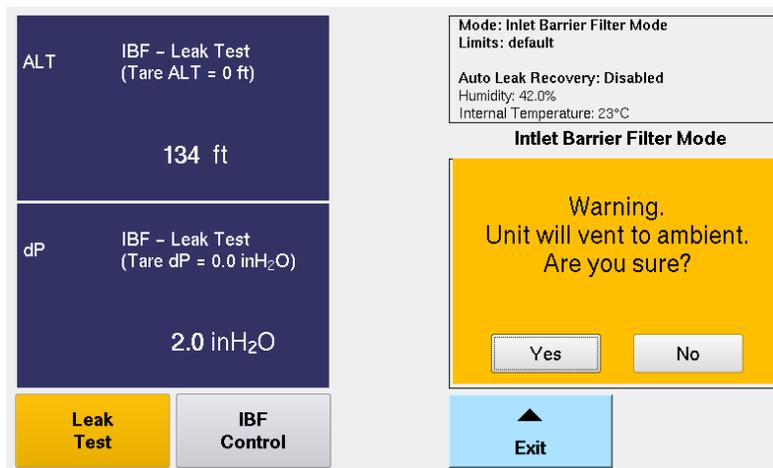

Figure F. 9 Vent to Ambient Screen
15. Once testing is completed, touch “Exit”. A warning screen appears with the prompt below (Fig. F. 9).